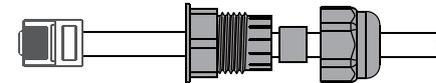

Figure 4.6-4 Remotely close the cable connection
Step 3-2 For Remote Shutdown. Run the cable through the steel plate . Then wire from pins 5 and 6. Table 4.6-1 describes the 6-pin port definition, Wiring is shown in Figure 4.6-4.